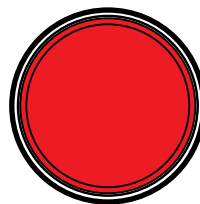

Figure 118. Contactor Open Lamp (ON/RED)
5. **On generator #1**, verify that the **Contactor Open lamp** (Figure 118) is illuminated (**RED**). This indicates that the contactor contacts are open.